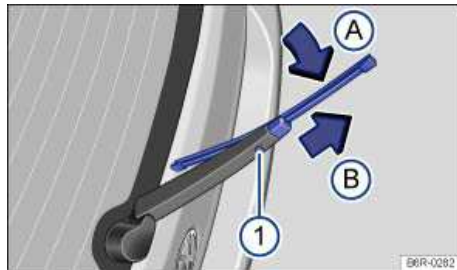

Fig. 161 Changing the rear window wiper blades.
- Press and hold the release button ⇒ fig. 161 \(1\).
- While lifting the wiper blade in the direction of the wiper arm (arrow (A)), pull off the wiper blade in the direction of the arrow (B). This may require moderate force.
- Install a new wiper blade of the **same length and type** onto the wiper arm by pushing in the opposite direction of the arrow (B) until it latches.